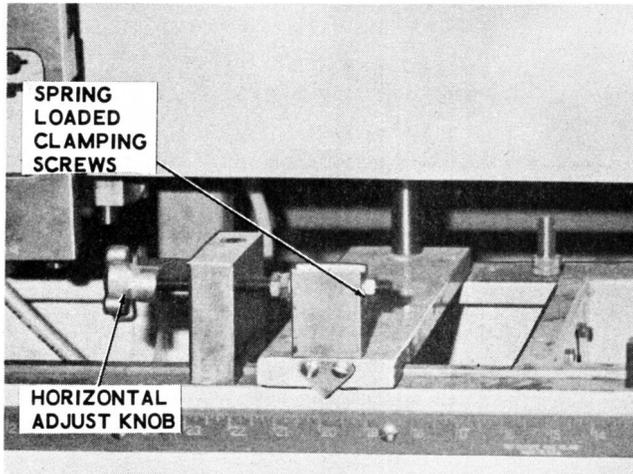

Figure 4-7. Scanner Head Adjust Control
e. Periodically check for proper cutoff of printed web. Adjust the position of the scanner head to bring the web to the proper cutoff position. Move scanner head by turning adjusting knob (Figure 4-7). A 1/16 inch movement of the scanner will produce about a 1/16 inch movement of the cutoff point on the web. For example, if the cutoff point should be moved over to the right, the web must be moved to the left a corresponding distance. To move the web to the left relative to the cutoff point, move the scanner head to the left the necessary distance.